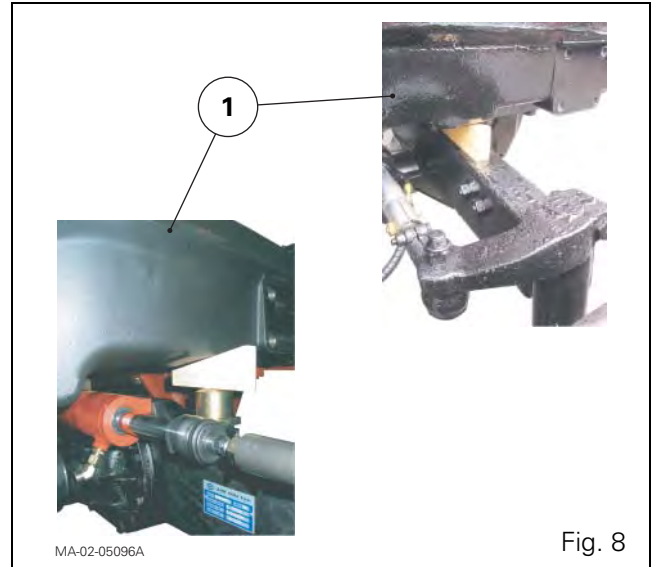

Fig. 8
by inserting a suitable wooden block on either side of the frame (1) as shown in Fig. 8.